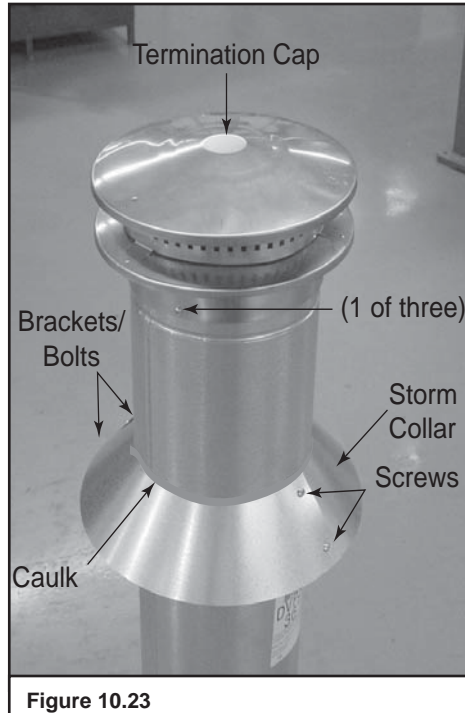

Figure 10.23
- Caulk around the top of the storm collar (see Figure 10.23).
- Secure the cap by driving three self-tapping screws (supplied) through the pilot holes in the outer collar of the cap into the outer flue of the pipe (see Figure 10.23).